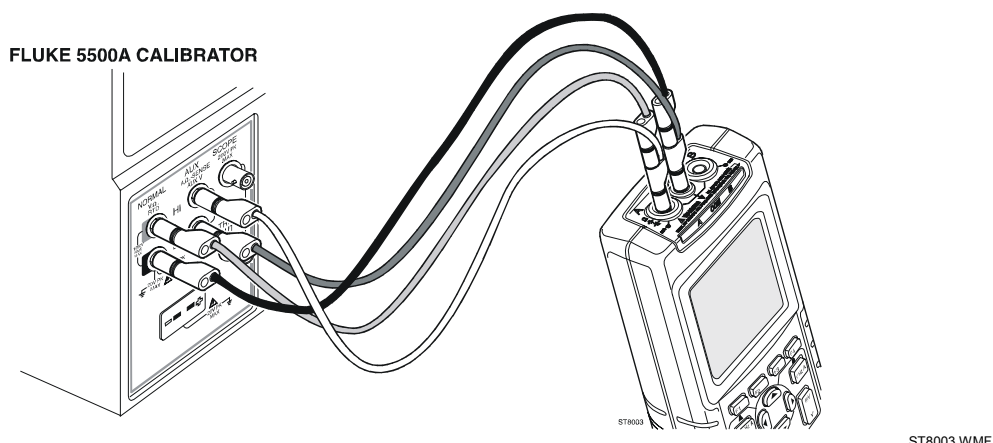

Figure 4-7. Test Tool Input A to 5500A Normal Output 4-Wire
1. Connect the test tool to the 5500A as shown in Figure 4-7.
1. Connect the test tool to the 5500A as for the previous test (see Figure 4-7).